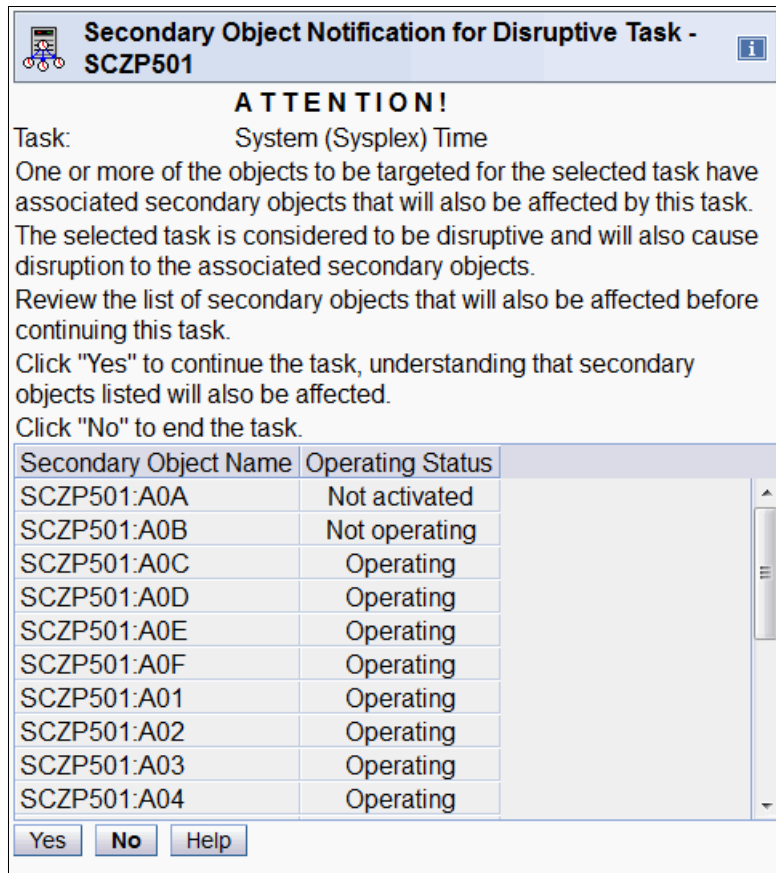

Figure 9-28 System (Sysplex) Time: Attention message
- Because changing System (Sysplex) time is a disruptive operation, an attention message is displayed (Figure 9-28). Read it and click **Yes** to continue.